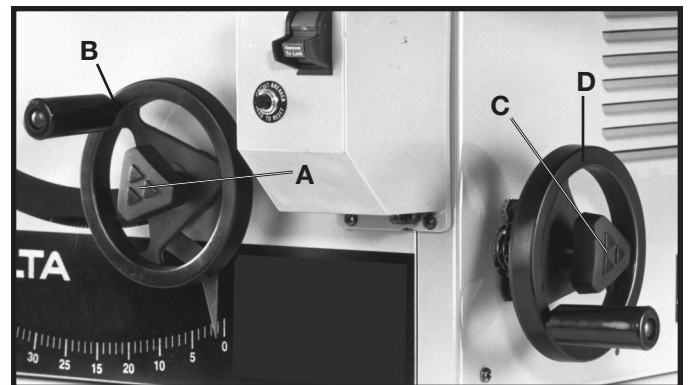

Fig. 41
To raise the saw blade, loosen lock knob (A) Fig. 41, and turn the blade raising handwheel (B) clockwise. When the blade height is at the desired height, tighten lock knob (A).
To tilt the saw blade for bevel cutting, loosen lock knob (C) Fig. 41, and turn the tilting handwheel (D). When the desired blade angle is obtained, tighten lock knob (C).